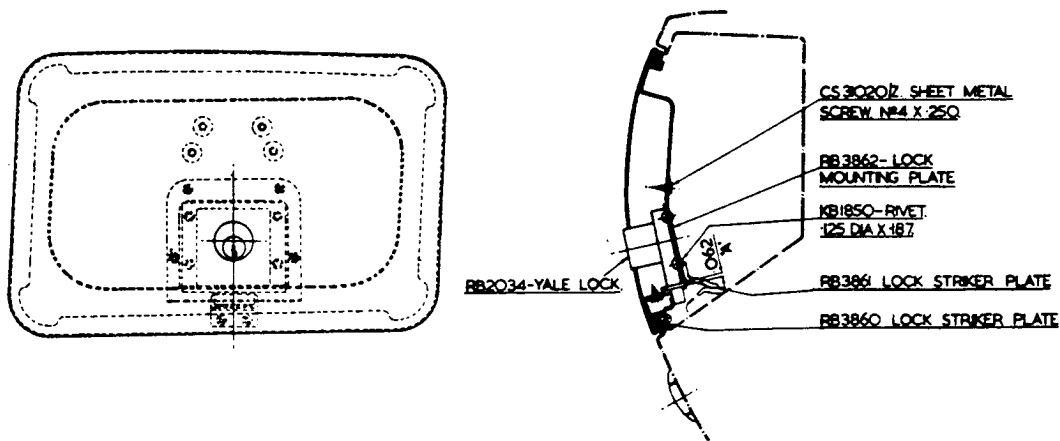

FIG. 3.
6. Weld the rear lock striker plate to the back of the lock mounting plate, ensuring that this is set $1/16"$ (1.6 mm) inwards from the bottom edge of the mounting plate as shown in dimension "A" Fig. 3.
9. Remove the lock assembly and drill the inner door panel accordingly. Refit the lock assembly and secure to the door panel by means of the retaining screws as shown in Fig. 3.
10. Drill and secure the front striker plate to the interior flange of the filler compartment as shown in Fig. 3, using two 3-BA countersunk headed screws and nuts. Replace the rubber grommet after tightening the nuts.